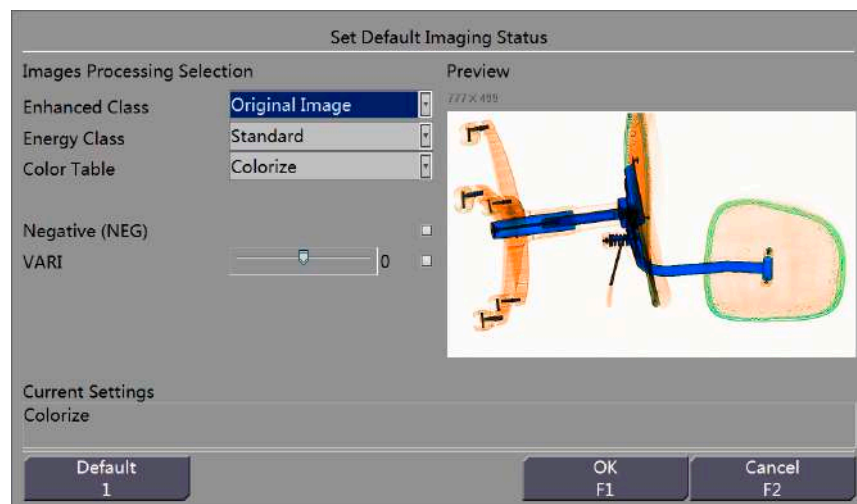

Figure 18-9 Interface of Default Imaging Settings
Step 1 To change and set the imaging settings of the current scan image to the default imaging settings, choose Default Imaging Settings on the interface of Figure 10-6 or press the Increase key on the operation keyboard to display the Set Default Imaging Status interface, as shown in Figure 18-9.